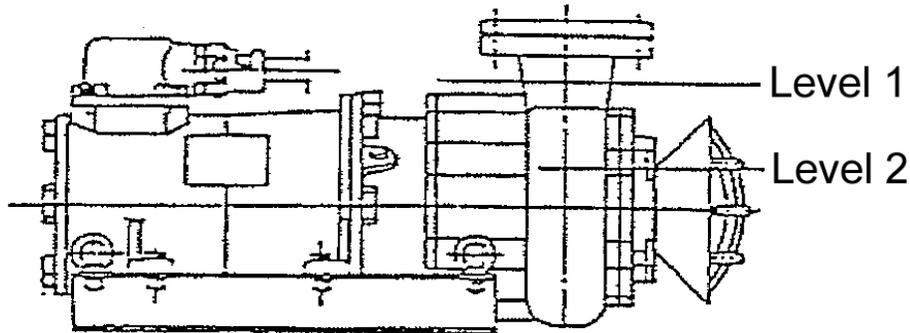

Figure 2
1. Change of running condition depending on water level. If the suction water level comes down near "LEVEL 1", air will be suctioned with generated vortex and consequently the pump is put in water-roaring run condition, which continues until the water level reaches next "LEVEL 2". (Refer to Fig. 2)